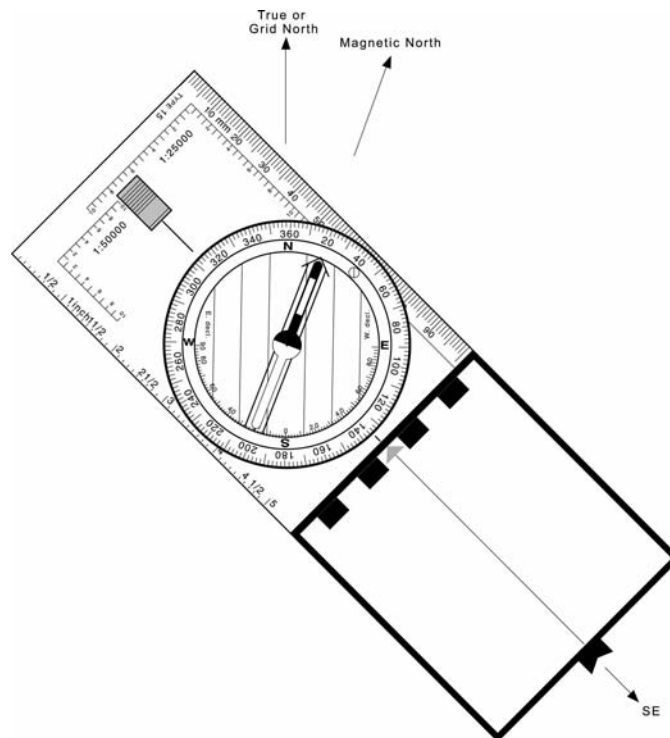

Figure 6.9 Appearance of Compass when Aligned for a Direction of Travel of 135° (SE)
2. Hold the compass level and turn your whole body around until the red end of the magnetic needle falls within the red end of the orienting arrow. The sighting line on the mirror now points in the 135° direction. Figure 6.9 shows how the compass would appear when aligned in the direction of 135° .